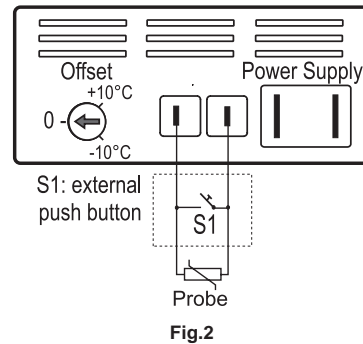

Fig.2
External push-button connection (Fig.2)
- Connect the push button in parallel with the probe as shown in Fig.2.